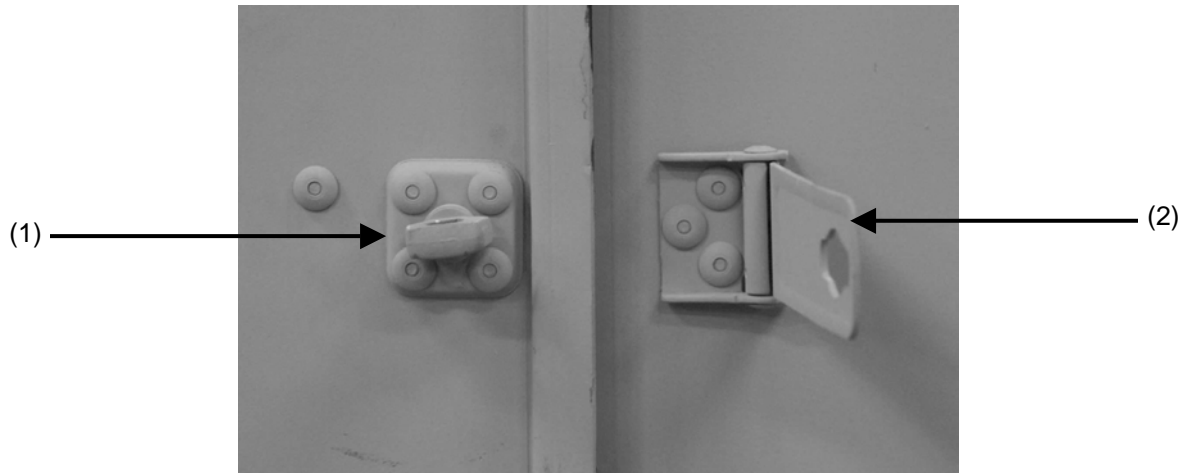

Figure 4-26. Panel hasp.
1. Remove rivets (WP 0037 00) from damaged portion (male (1) or female (2)) of hasp (Fig. 4-26).